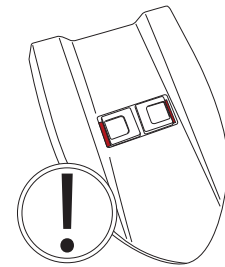

Fig.20
- Apply downward pressure to the lid, sufficient to make certain that the two sliding release catches spring outwards and engage with the top of the dirty water tank (Fig.20).
**The lid is correctly installed when the RED background in the seats of the two catches can NOT be seen (fig. 20).**